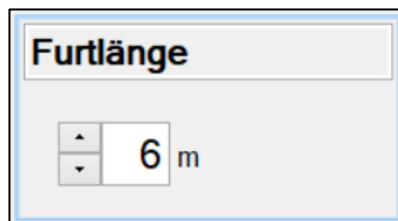

Fig. 26
- Pedestrian crossing signal boost **(1)**. If the boost is adjusted, the “Road width” setting (see Fig. 26) is not taken into consideration.